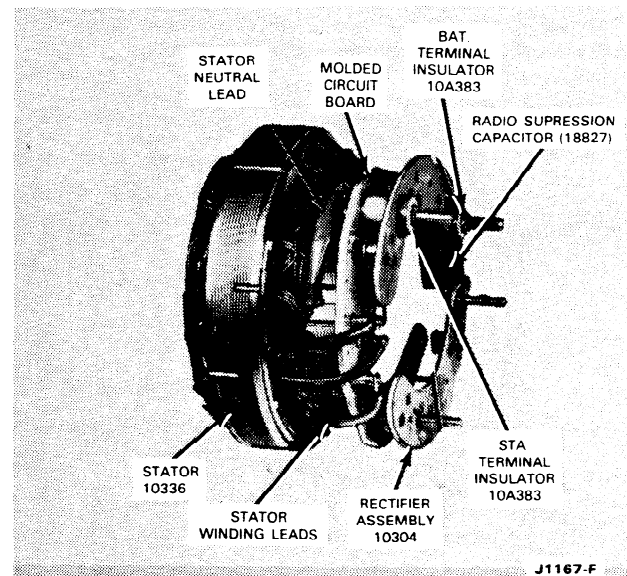
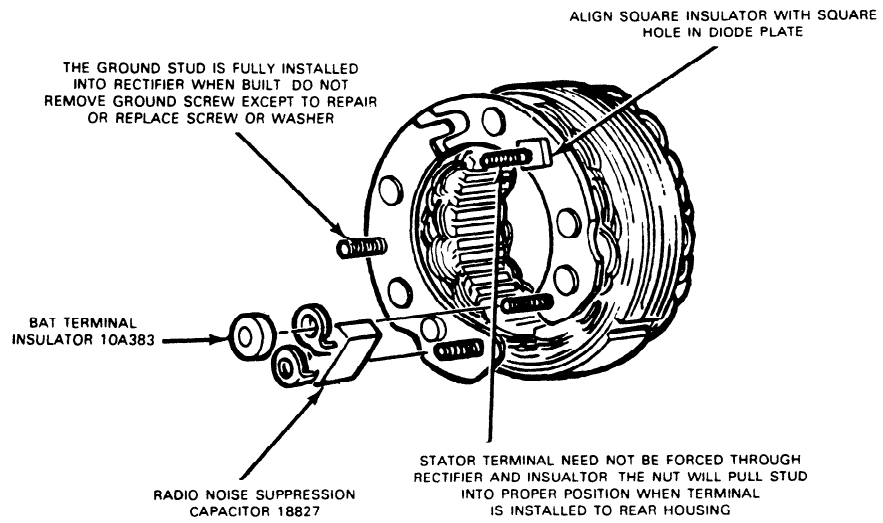

FIG. 21 Stator Lead Connections
FIG. 22 Terminal Insulators — Fiber Glass Circuit Board
9. Wrap the three stator winding leads around the rectifier terminals and solder them. Use a 100-watt soldering iron and rosin-core solder. Position the stator neutral lead element on the stator terminal screw and install the screw in the rectifier assembly (Fig. 21).
11. Position the radio noise suppression capacitor on the rectifier terminals. On the circuit board with exposed diodes, install the STA and BAT terminal insulators (Fig. 21). On the single circuit board, position the square hole in the rectifier assembly (Fig. 22) on the BAT terminal.